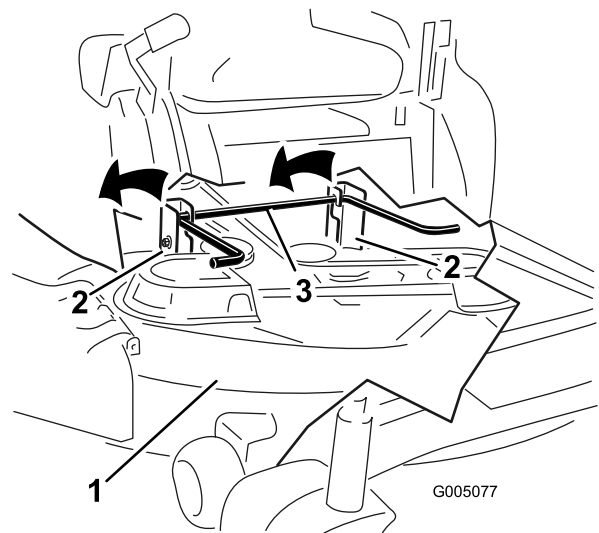

Figure 54
5. Lift the rear of the mower deck and guide the hanger brackets over the rear lift rod (Figure 54).